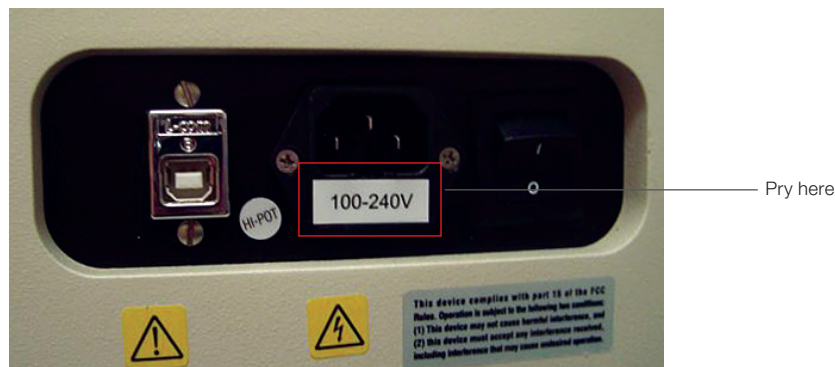

Fig. 24. CFX Automation System II power entry port.
2. Using a small flat-blade screwdriver at the top of the fuse housing, gently pry the fuse housing (Figure 24) out of the power entry port.